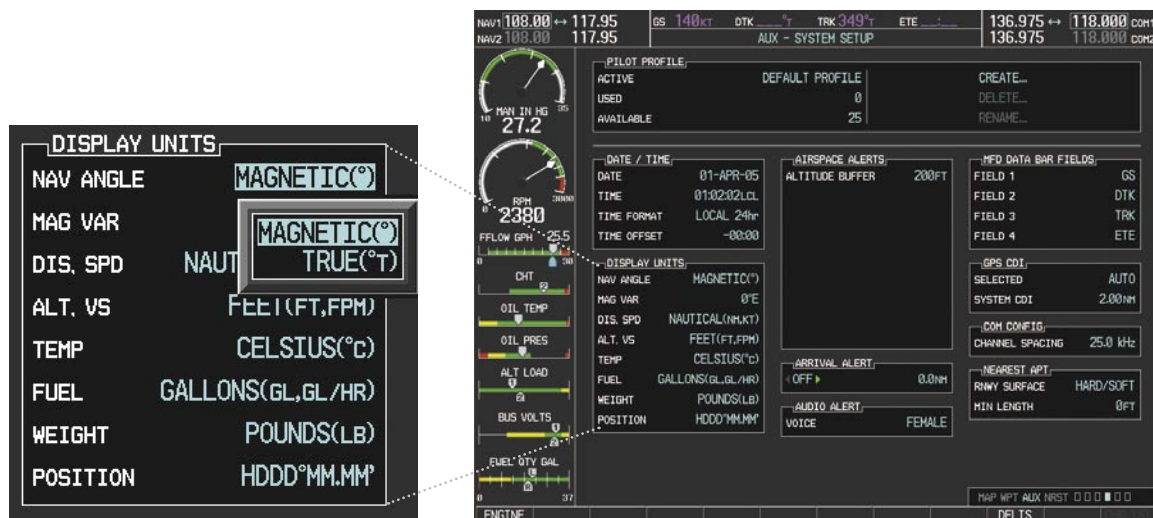

Figure 2-20 Navigation Angle Settings
- 3) Turn the large **FMS** Knob to highlight 'Nav Angle' in the 'Display Units' box (Figure 2-20).